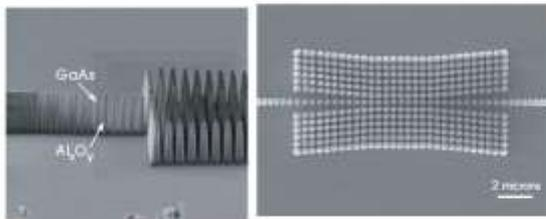

Figure 1: Two views of a reduced-radius waveguide fabricated in a rod slab.
- **Modification of Rod Radii:** Specifically, the radius of all the rods in a particular row is shrunk, as demonstrated in the fabricated example shown in figure 1.